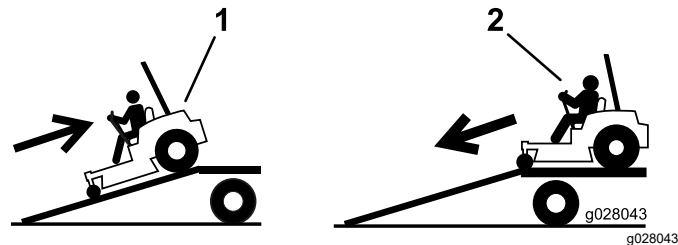

Figure 33
4. Back the machine up the ramp (Figure 33).
2. Drive the machine forward down the ramp (Figure 33).